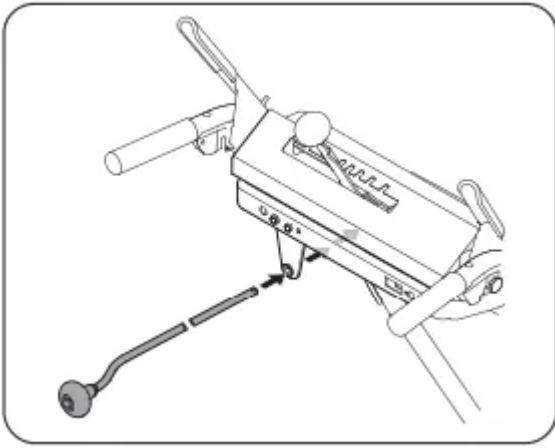

Figure 16
- Insert chute control rod into the support bracket on rear of the dash panel. See Figure 16.